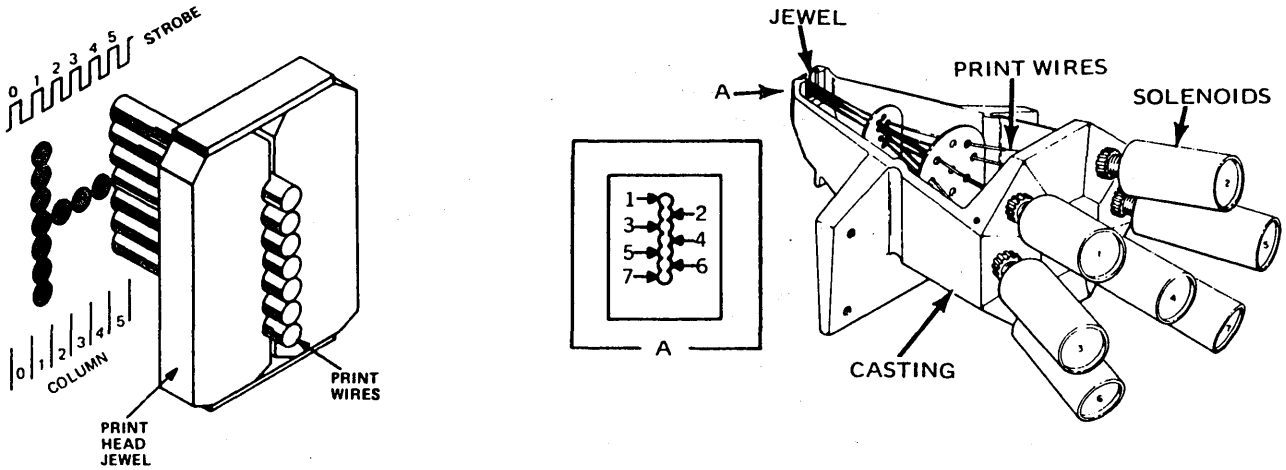

Figure 1-3. PRINTING THE LETTER (H) Figure 1-4. PRINT HEAD COMPONENTS
1.3.1 CHARACTER PRINTING (FIGURES 1-3, 1-4)
A small aluminum carriage supports the print head assembly. During printing operation, the carriage travels along the print line from left to right. Printing is accomplished by selectively firing the print wires as the print head moves from left to right across the print line. Printing impulses energize the print solenoids and drive the print wires against the ribbon, paper and platen to form the characters in a dot matrix pattern. When the solenoids are de-energized, the wires are withdrawn so they are flush with the surface of the jewel. Each solenoid can fire independently up to five times for any one character. Figure 1-3 shows an example of the dot matrix forming the letter H. Character formations for the standard 64 ASCII set are shown in the Series 100 Operators Manual. Other available character sets are shown in Printer Character Sets brochure (No. C332-20).